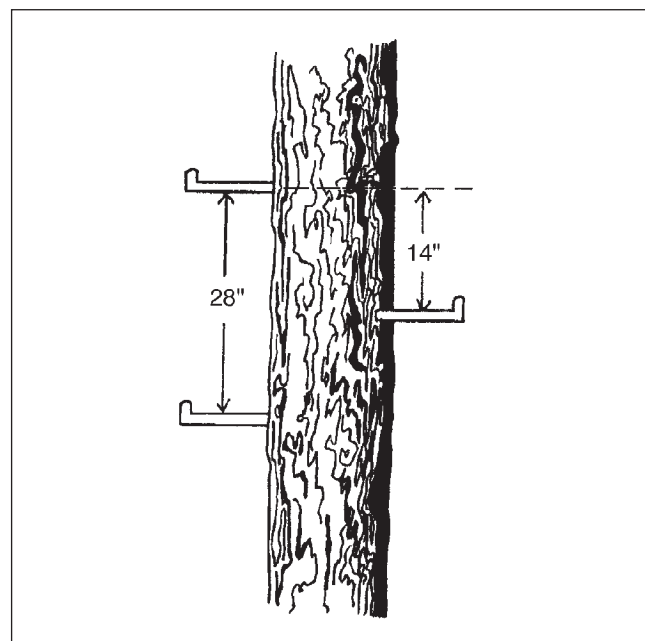

Figure 5g—Pole step spacing.
4. Space pole steps about 14 inches apart from each other or about 28 inches between pole steps on the same side of the bole (figure 5g). On a tree with sweep, place pole steps on the outside curve of the sweep.